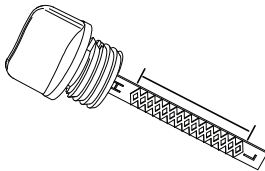

Figure 4-2. Safe Operating Range
4. Screw dipstick into filler neck. Remove dipstick and verify oil level is within safe operating range. See Figure 4-2.